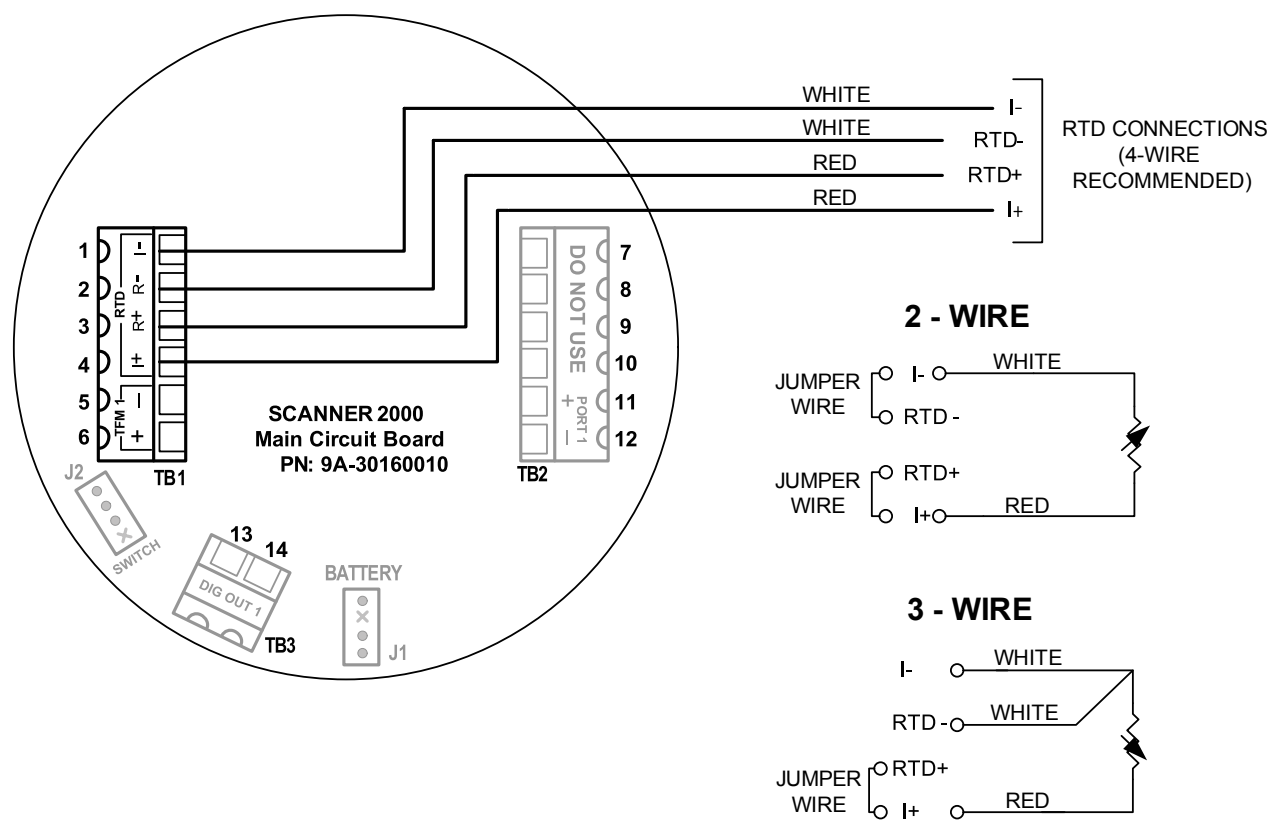

Figure 3.6—Process temperature input wiring without terminal housing
- Connect the process temperature input wiring to TB2. See Figure 3.6, page 51.
A 4-wire, 100-ohm platinum RTD is recommended for performing orifice gas, compensated liquid, or gas turbine calculations, though a 2- or 3-wire RTD may prove functional. Wire as shown in Figure 3.6. If a terminal housing is in use, RTD inputs may be wired as shown in Figure A.7, page A-6.